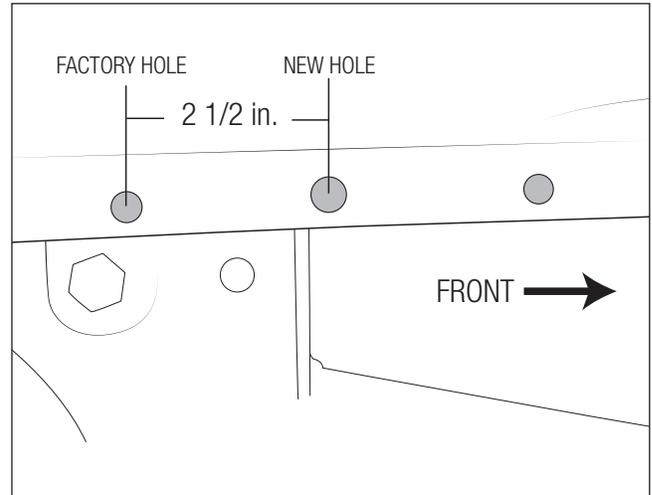

Figure 8: Passenger Side Shown
- B. Drill a 7/16" hole in the pinch weld 2 1/2" from the stock location towards the front of the vehicle (fig. 8).